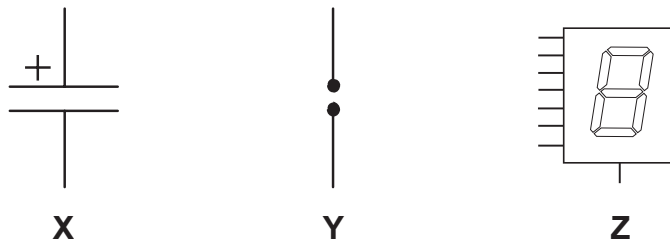
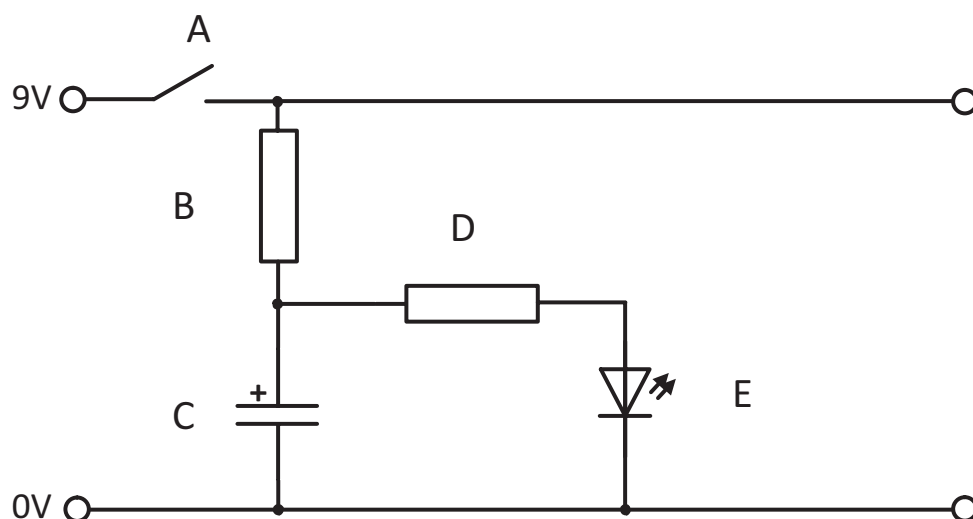
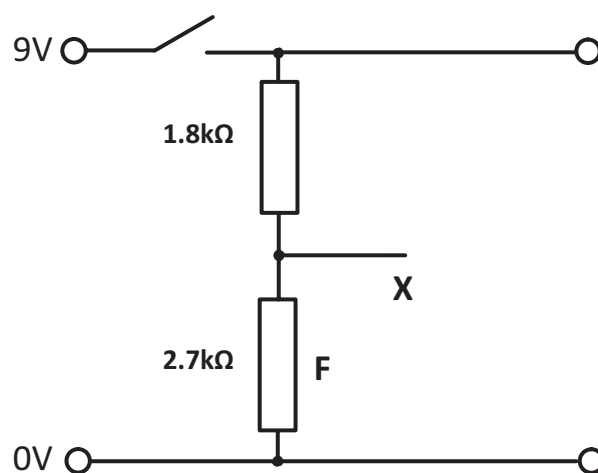

Fig. 1
Fig. 2
Fig. 3
- 1 (a) (i) Three electronic symbols, labelled **X**, **Y** and **Z** are shown in **Fig. 1**.
(b) The electronic symbol labelled **X** in **Fig. 1** is used in the circuit shown in **Fig. 2**.
- (i) The switch labelled **A** in **Fig. 2** is an SPST switch. What do the letters **SPST** stand for?
- (ii) Name the electronic component represented by the symbol labelled **E** in **Fig. 2**.
Part of the circuit in **Fig. 2** has been redrawn below and is labelled **Fig. 3**. Component **C** has been replaced by the component labelled **F**.